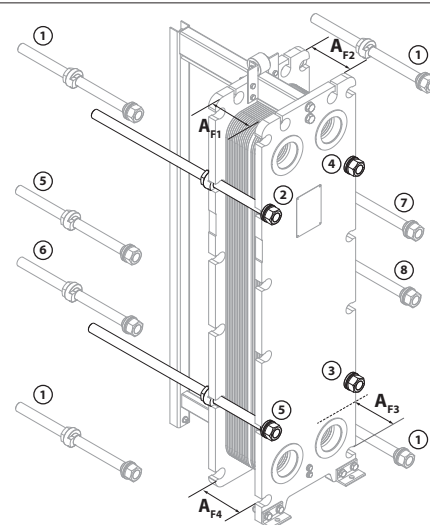

Fig. 35
Before commissioning check if all connections are fitted and tightened correctly and that the A-measure is correct according to the nameplate Measure AF1, AF2, AF3, AF4 dimension according to fig. 35.
3. Lose the tie rods in max nut travel distance of 3 mm until you reach the A-measure = A nominal (measured/from label) + 5%. At this point you can totally loosen and take away pairs of tie rods from top and bottom (indicated as 1 in fig. 35).
Do not loosen one or all tie bolts fully at once. Loosen the tie bolts slowly, little by little in the sequence shown in fig. 35. If a hydraulic tool is used to loosen the tie bolts, the tool must be set on lowest speed.